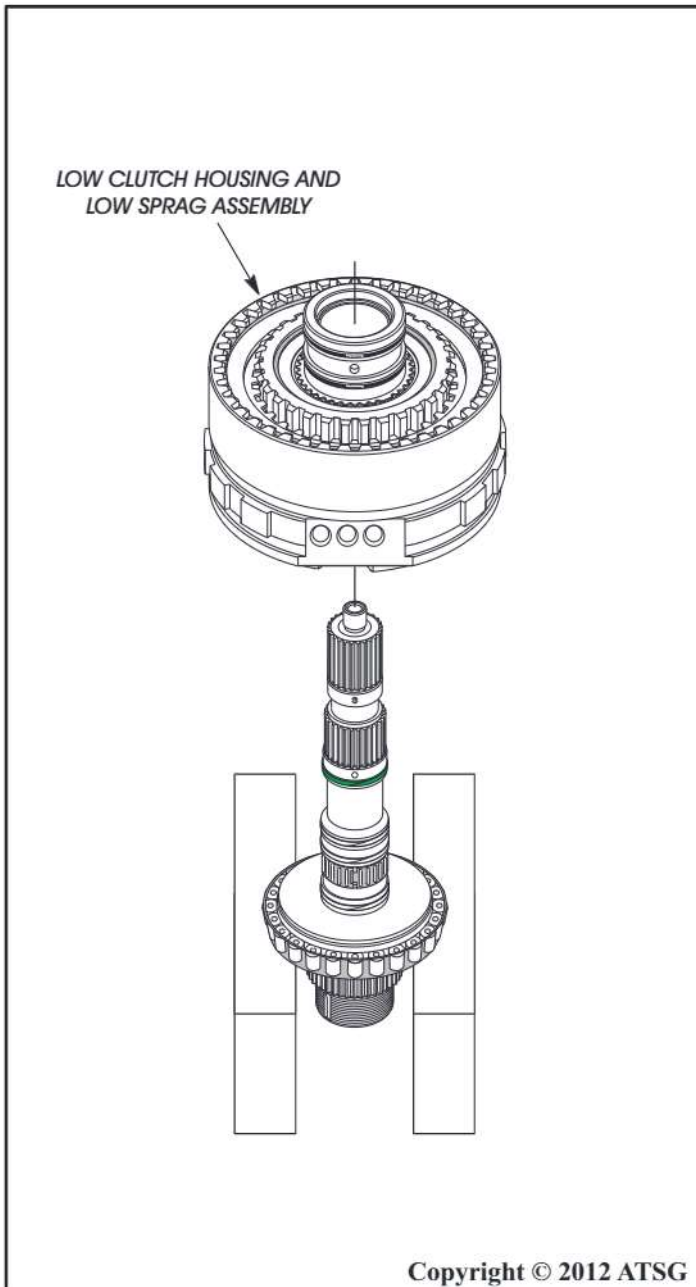

Figure 163
16. After removing the driven transfer gear, place the underdrive center shaft on the blocks, as shown in Figure 163.
17. Install the completed low clutch housing onto the underdrive center shaft, as shown in Figure 163 and ensure sprag is still fully seated.